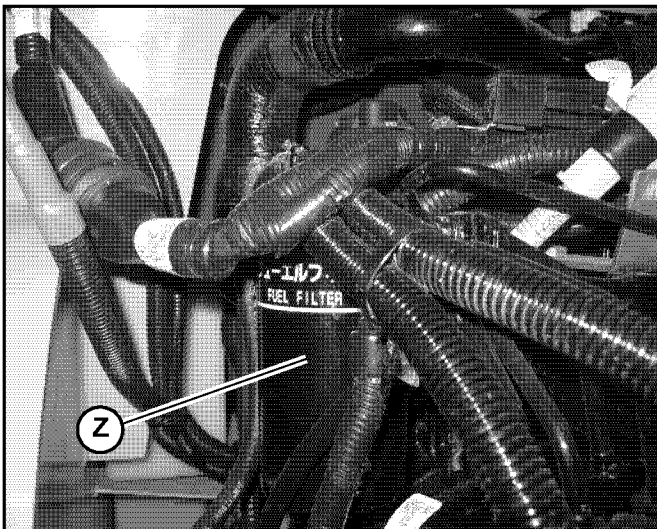

Fig. 130 – Engine Fuel Filter
5. Remove the fuel filter (Z, Fig. 130), using a filter wrench if necessary. Carefully clean the filter head mounting surface with a clean cloth.